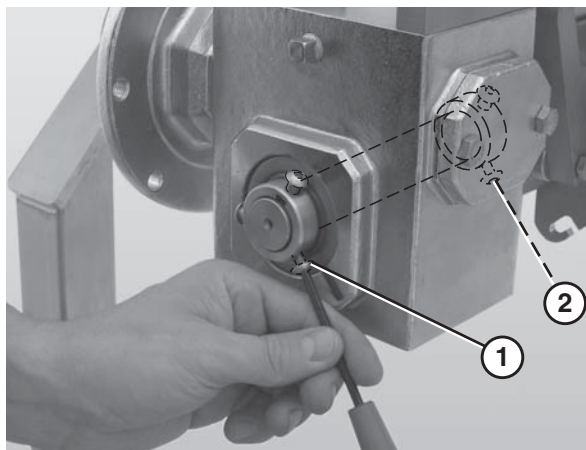

Figure 11
6. Use a 4 mm hex wrench to tighten the outside button head screws (Figure 11, item 1) and the inside button head screws (Figure 11, item 2) that connect the gearmotor to the drive spindle.